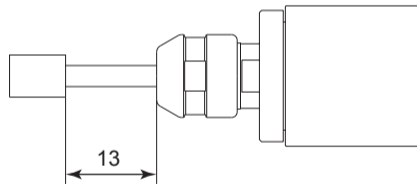

Fig. 40
- ① The proper surface speed for general grindstones is 10-30m / s.
- ② Do not exceed 13mm of overhang for mounted grindstones as shown in Fig. 40. If the overhang must exceed 13mm, reduce the motor speed in accordance with table 6.
- ③ Dress the grindstone prior to use.
- ④ Do not use cutting tools with bent or broken shanks, cracks or excessive run-out.
- ⑤ For grinding, the maximum depth of cut should not exceed 0.01mm radially or axially. Reciprocate the tool several times after each pass to eliminate tool pressure.
- ⑥ Always operate tools within the allowable recommended speed of the tools. Use of a tool outside of the allowable speed of the tools could cause damage to the spindle and injury to the operator.
- ⑦ Keep the tool shank and collet clean. If contaminants are left in the collet or collet nut, excessive run-out will cause damage to the tool and or spindle.
- ⑧ Do not strike or disassemble the motor spindle.
- ⑨ Please set the tools to minimize the overhang amount. 13mm is the maximum amount of overhang to maintain high accuracy and safety.